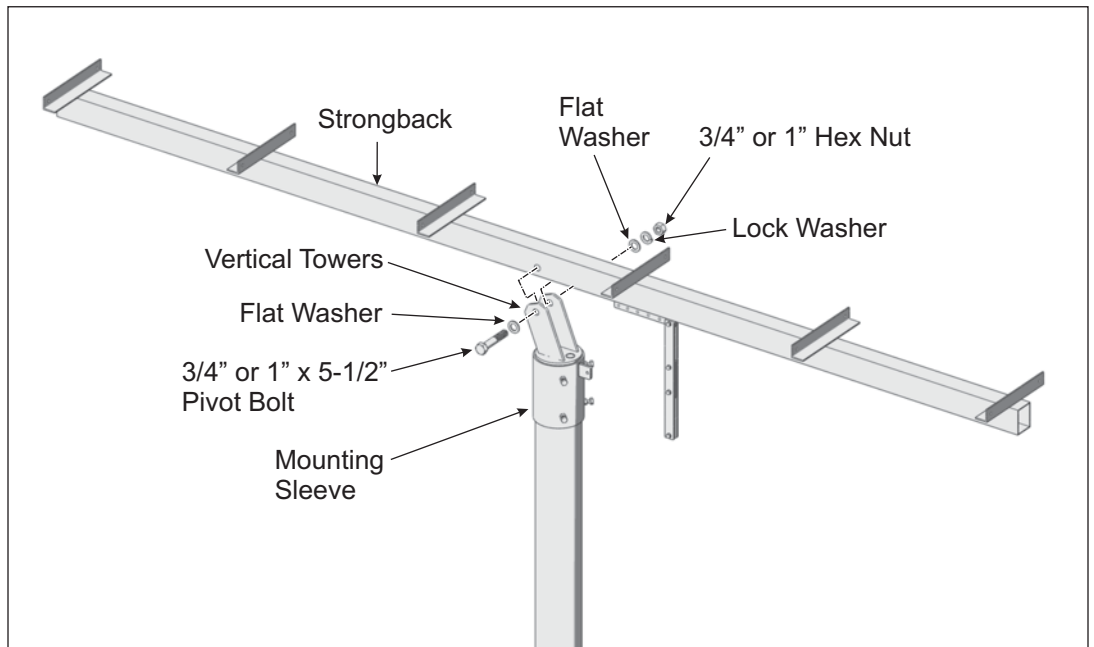

Figure 2-2: Installing the Strongback
- B. Remove the Pivot Bolt from the Mounting Sleeve and also collect the 3/8" or 1/2" x 1-3/4" bolt, flat washers and lock washer needed to secure the Support Bar to its Pivot Tab on the Mounting Sleeve. (See Figure 2-2)